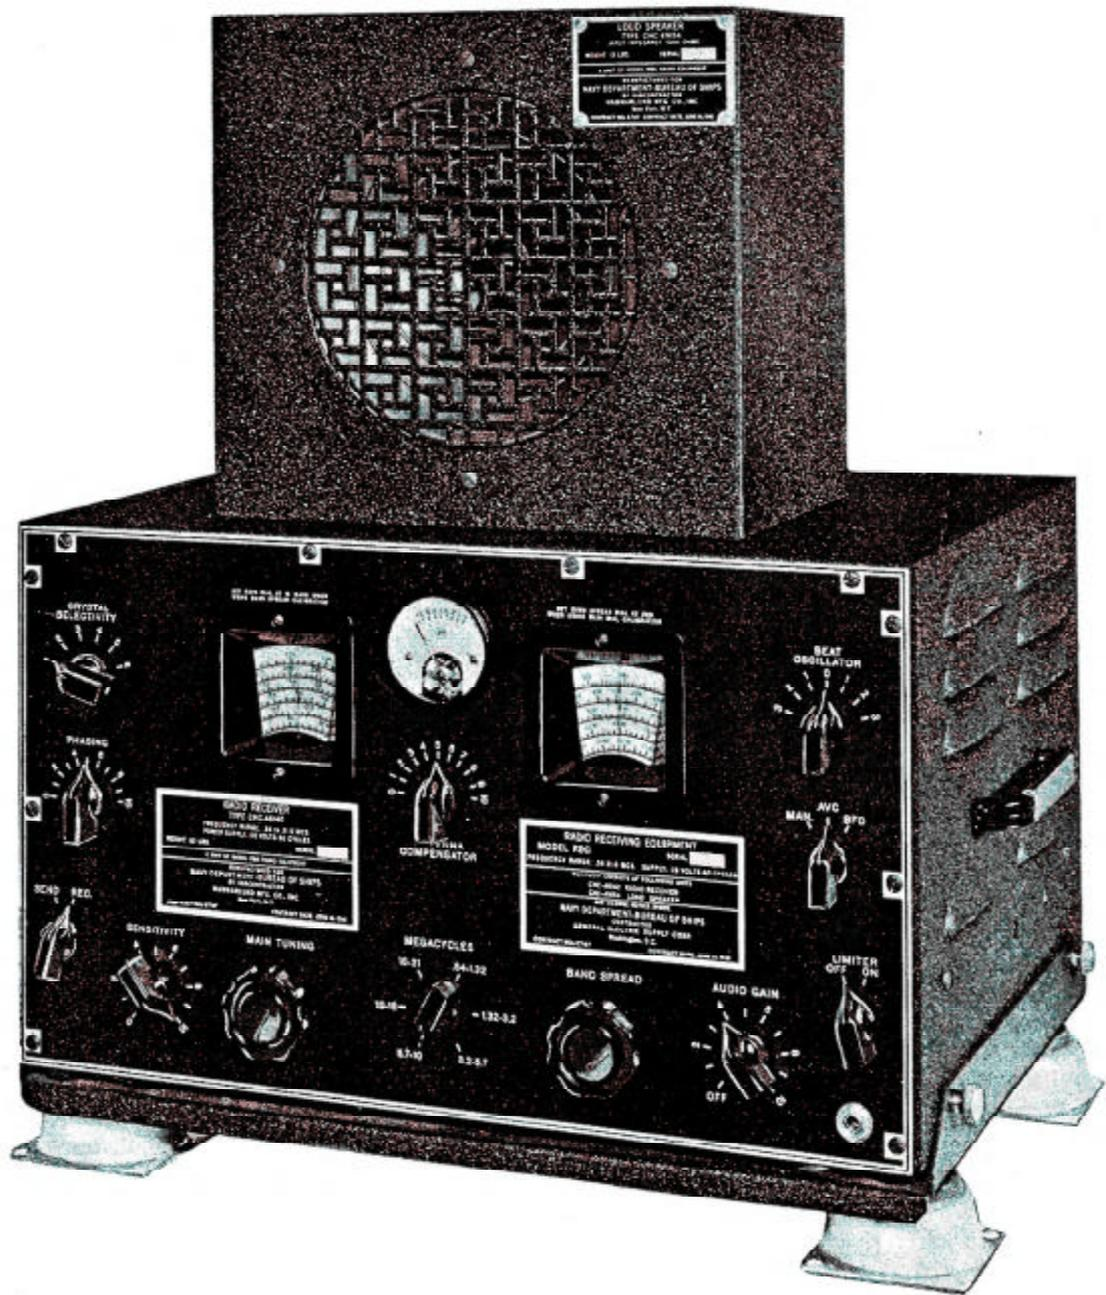

Fig. 1. Model RBG Equipment
- 7.201 The receiver is designed for table mounting, and includes a shock absorber equipped mounting frame with provision for securing permanently in the desired operating position. See Figs. 1 and 8.